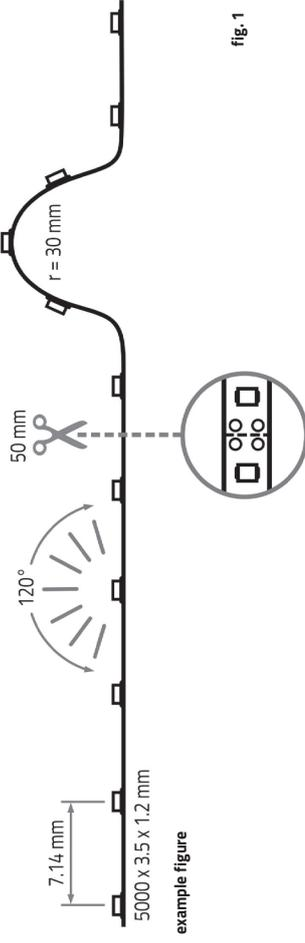

fig. 1
2. Shorten **VARDIFLEX** LED strip if necessary (fig. 1).
LED strip can be separated in each case after **seven LEDs (50 mm)** (fig. 1).